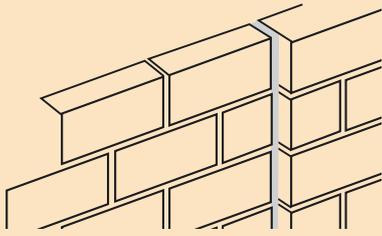
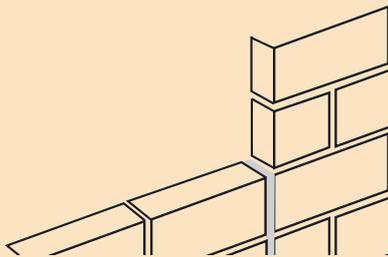

Fig. 2
Fig. 3
- Change in wall height or thickness (see Figure 2 & Figure 3).